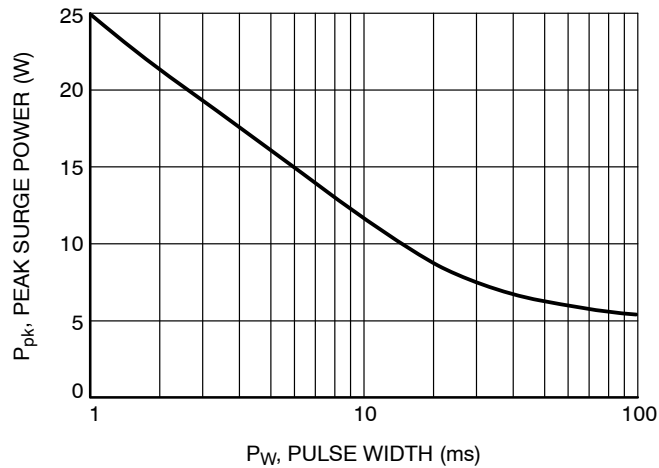

Figure 2. Maximum Non-repetitive Surge Power versus Pulse Width
2. For different square pulse durations, see Figure 2.